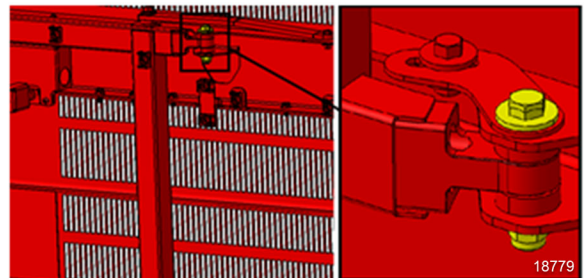

FIGURE 58
- If the longitudinal position is out of tolerance, adjust using the adjustment provided on the inner side of the door, at the upper attachment point of the arm on the door (FIGURE 58).